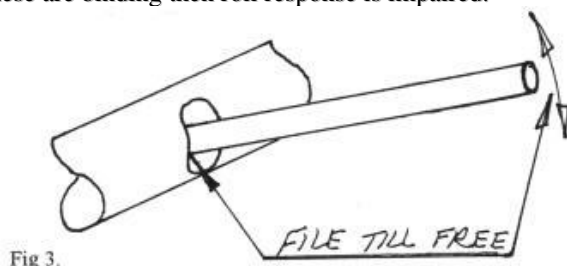

Fig 3.
3) Ensure the tip washout rods are completely free to move up and down in their slots. If not, relieve the slot with a fine file (fig 3). Of course, if these are binding then roll response is impaired.